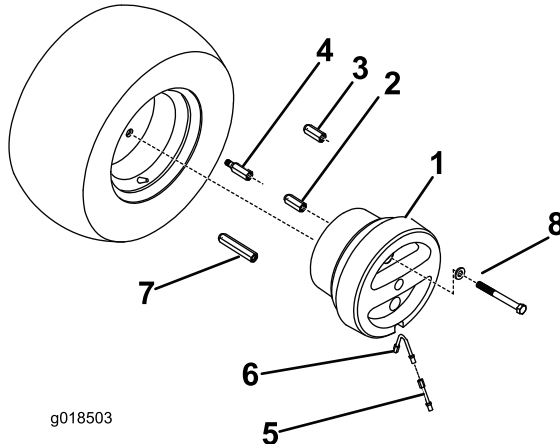

Figure 1
3. Install the 3 appropriate wheel adapter bolts or nuts to the wheel (Figure 1). Torque the adapters to 85-100 ft-lb (115-135 N-m).